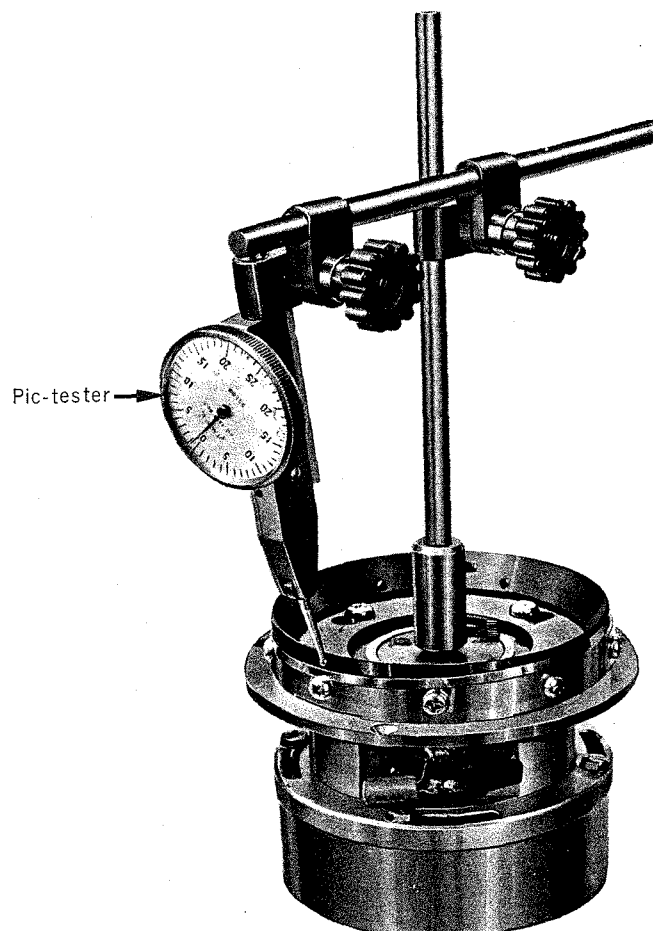

Fig. 1-15
(3) Degree of Roundness of Video Head's Lower Drum (ref. fig. 1-15)